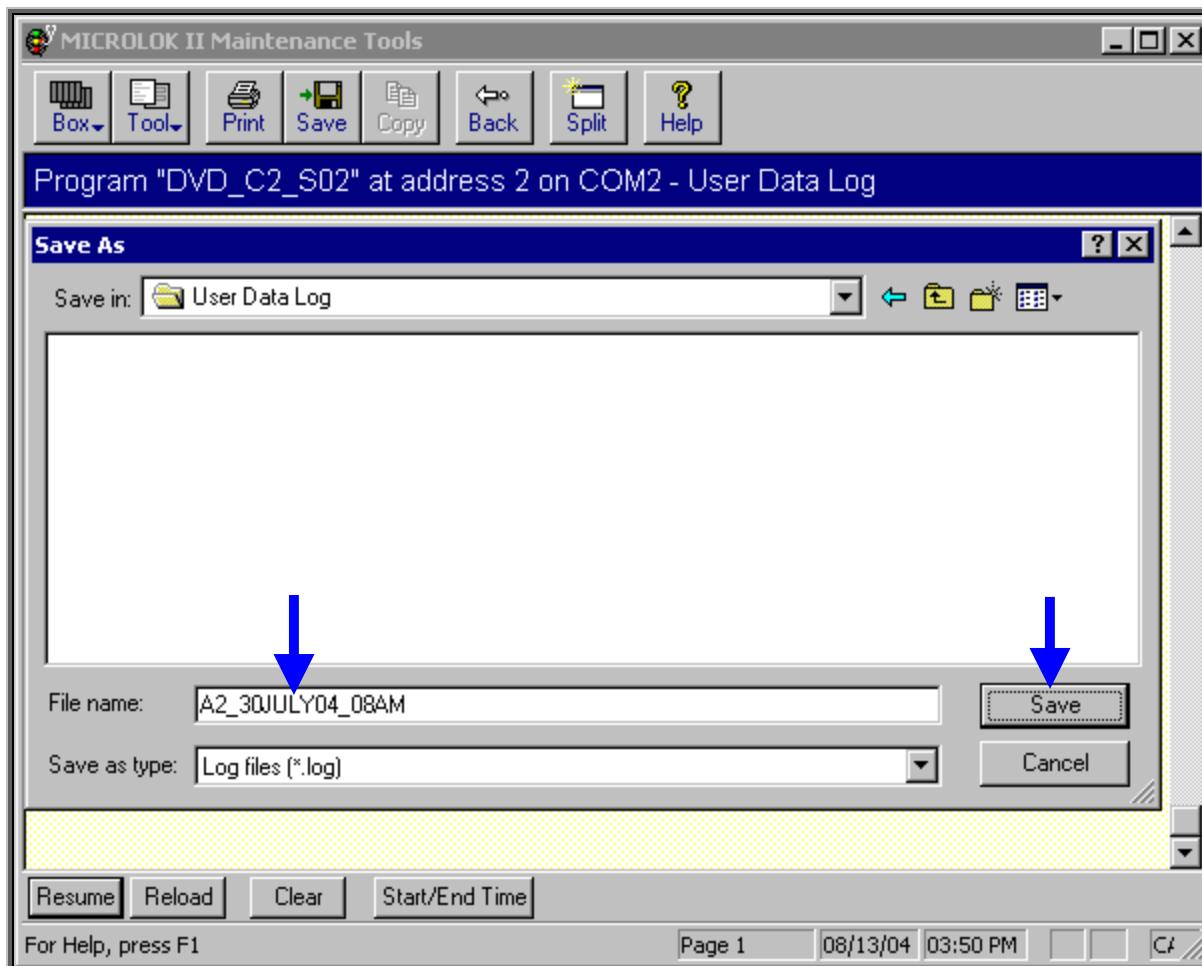

Figure-5.6.2.8
- ❖ The “Freeze/Resume, Clear, Reload and Start/End Time” buttons at the bottom of the display control the operation of the data logger (refer figure-5.6.2.9).